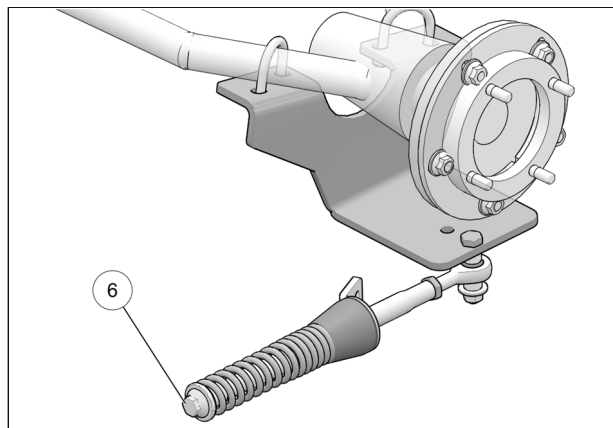

Fig. 10
10. Verify that spring assembly bolt (6) is tightened to the recommended torque specification: 75 N•m [55 lb•ft]. Refer to Fig. 10